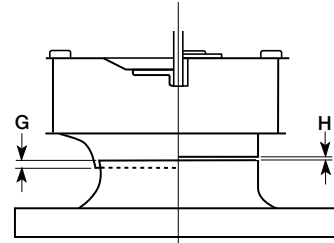

Figure 7
- Check all fasteners and setscrews for tightness. The wheel should rotate freely and be aligned as shown in figure 7.